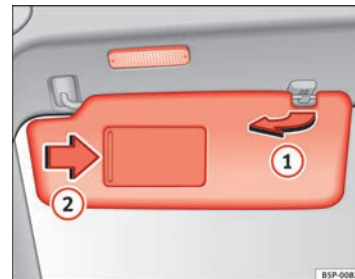

Fig. 81 Sun visor on the driver side
The sun visors for the driver and the front passenger can be pulled out of their mountings in the centre of the vehicle and turned towards the doors ⇒ Fig. 81 ①